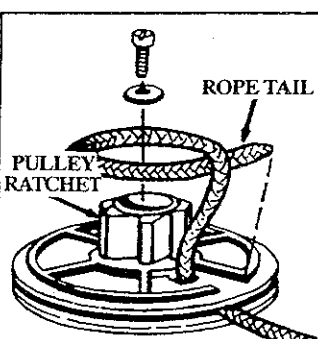

Figure 28
16. Wrap rope counterclockwise ↶ around pulley ratchet and tuck loose end back under rope where it comes out of hole. Leave a 1/4 to 1/2 inch tail laying flat on the top of the pulley. The rope tail *must not* extend beyond the edge of the pulley. Figure 28.